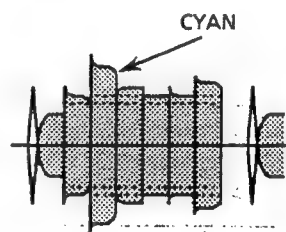

Figure 2-16.
- Adjustment R5348 (REC-C.) so that the amplitude of the cyan portion is  $23 \pm 1\text{mVp-p}$  (When the LP mode) as shown in Figure 2-16.